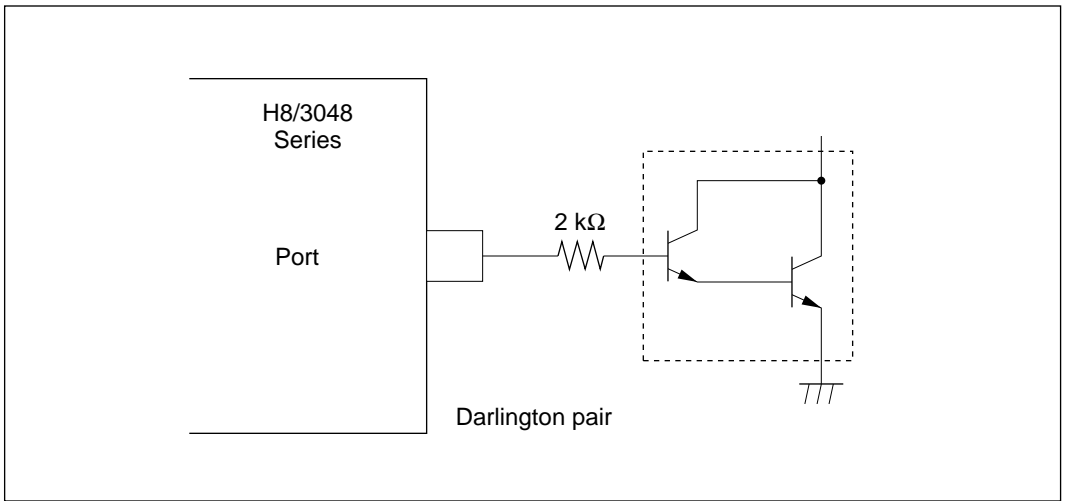

Figure 21-1 Darlington Pair Drive Circuit (Example)
2. When driving a darlington pair or LED, always insert a current-limiting resistor in the output line, as shown in figures 21-1 and 21-2.